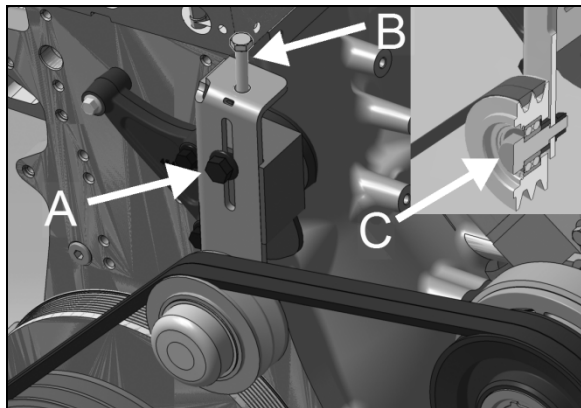

FIGURE 26: TENSIONER ON CENTRAL A/C
On the mechanical tensioner (Figure 26), slightly slack lock bolt (A). Adjust tension by turning